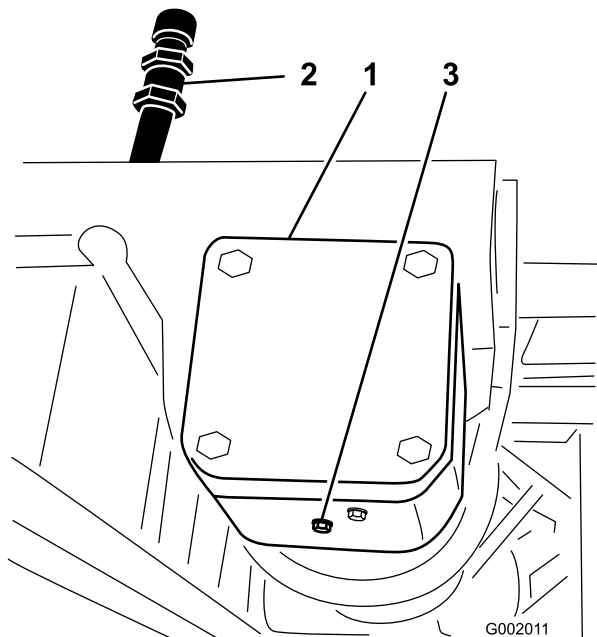

Figure 73
- Place a pan under the drain plug on the pump drive gear box (Figure 73).
- Remove the fill plug and drain plug (Figure 73), allowing the oil to drain into the pan.